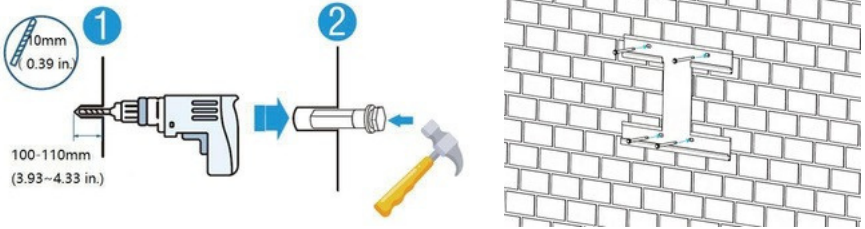

Figure 5-1
- Choose the recommend drill head (as shown in Figure 5-1) to drill 4 holes on the wall, 100mm -110mm (3.94" - 4.33") deep.
- Use a proper hammer to fixing the hanging plate to the wall, fit the expansion bolt(M6*100) into the holes, as shown in Figure 5-1.